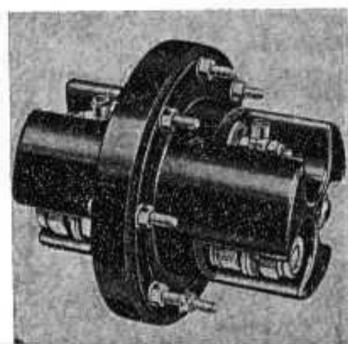

Fig. 15. Heavy duty pressurised bulkhead unit
33. This connector (fig. 15) is pressurized at 15 lb/in2 and designed for use at pressure cabin bulkheads where heavy duty connections must be broken. The type illustrated will accommodate two 200A conductors and one 19A conductor; another